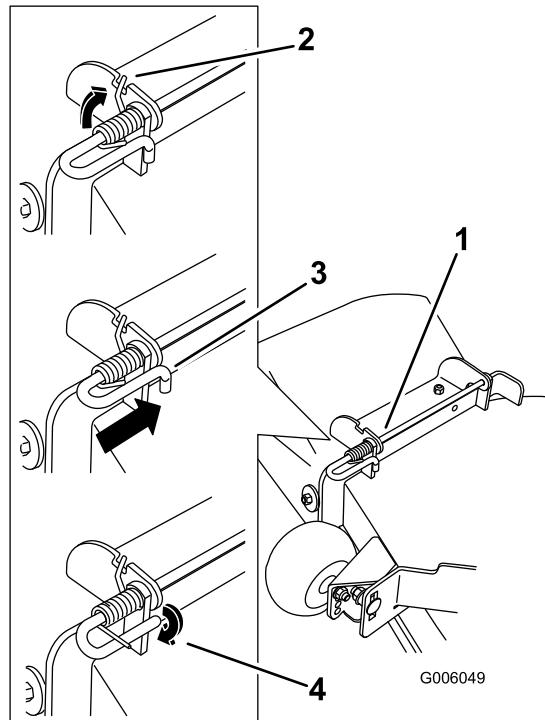

Figure 66
- 5. Secure the rod and spring assembly by twisting it so the short end of the rod can be placed behind the front bracket welded to the deck (Figure 66).